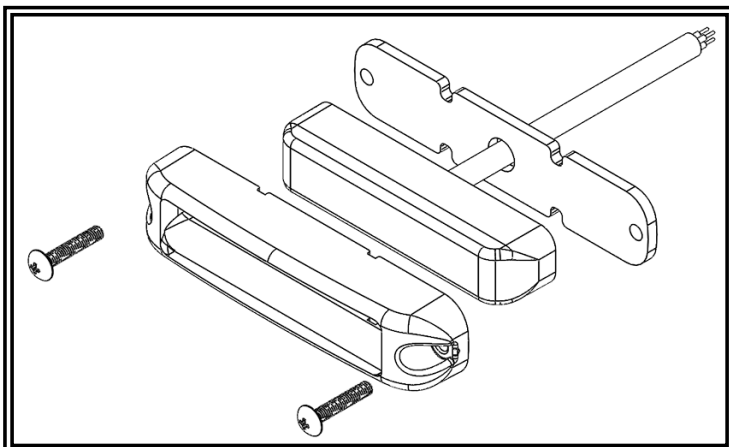

Figure 3
Step 3. Run the cable of the light head through the long gasket. Place the bezel over the light head and feed the cable through the center drilled hole in the mounting surface. Mount the assembly to the surface using the two M3x20mm button head screws. Tighten to 10 in-lbs max torque. See Figure 3.